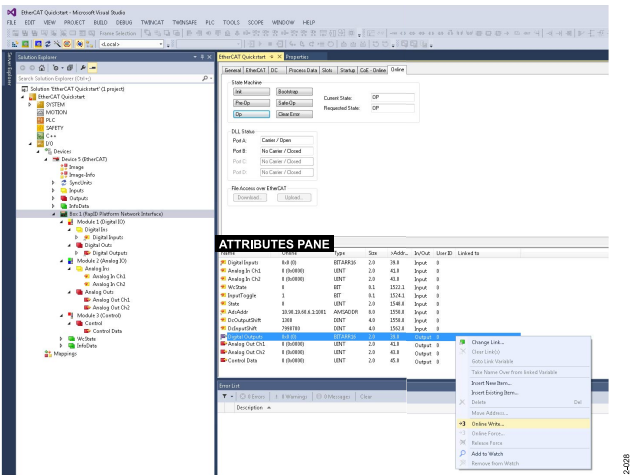
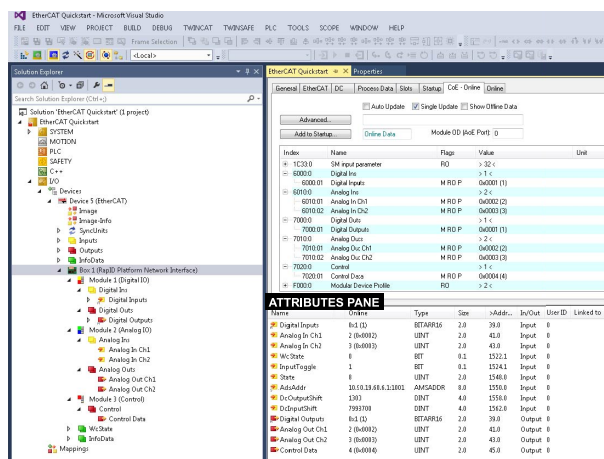

Figure 31. Online Write via Box 1 (RapID Platform Network Interface) Node Within the ATTRIBUTES PANE < Digital Outputs
Figure 33. Verify Online Writes Were Successful in TwinCAT Within the CoE-Online Tab
4. Right-click **Digital Outs** in the **Solution Explorer** pane (see Figure 30) or the **ATTRIBUTES PANE** (see Figure 31) and select **Online Write**.
7. Verify that the inputs match the outputs under the **CoE-Online** tab (see Figure 33) and under the **Online** tab for the **ATTRIBUTES PANE** (see Figure 31).